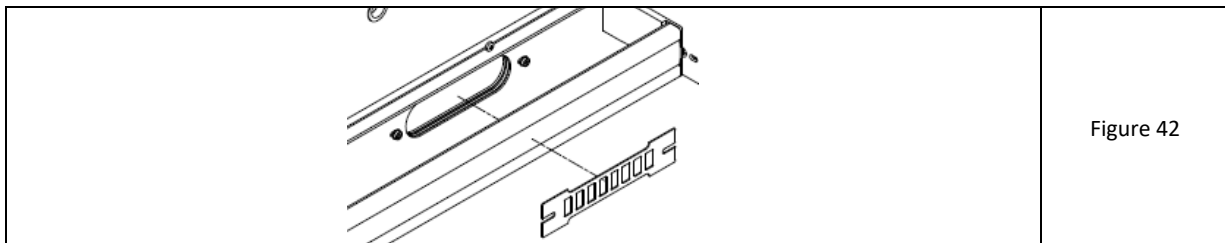

Figure 42
4. Additionally, at both ends of the oval outflow tighten the screws M5x12 with cylindrical head and Allen socket. Place a flat washer A5.3 under the screw head (fig. 42).
7. It is possible to install an additional protective grate on the oval outflow. To do this, loosen both M5 screws at the ends of the hole and insert the ends of the grate with the fork cut into one screw as far as it will go, and then move it back towards the other (fig. 42).